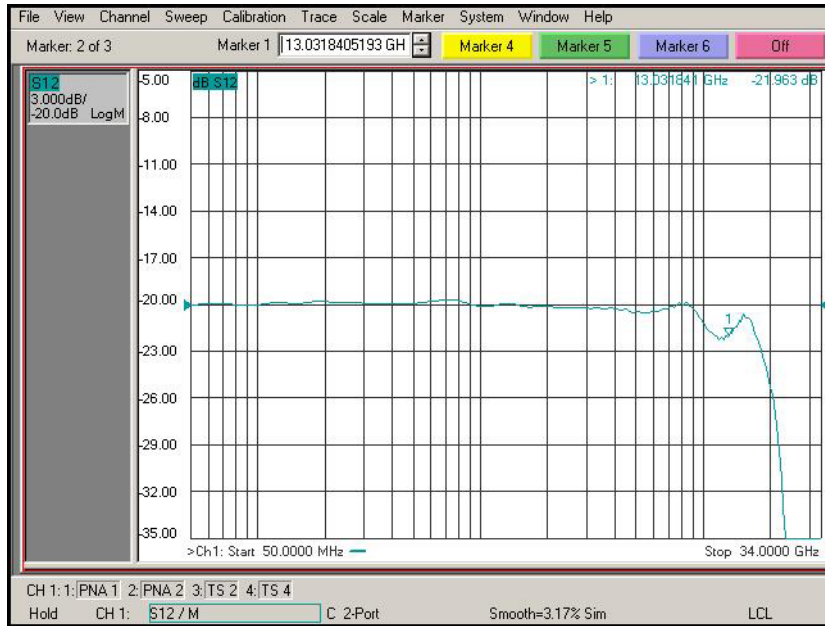

Figure 98 De-Embedded V_{out}/V_{in} Response of the Probe
- b Again, adjust the “Reference Level” in the scale menu so the 50 MHz point is at center screen. The display should look like **Figure 98** on page 126.